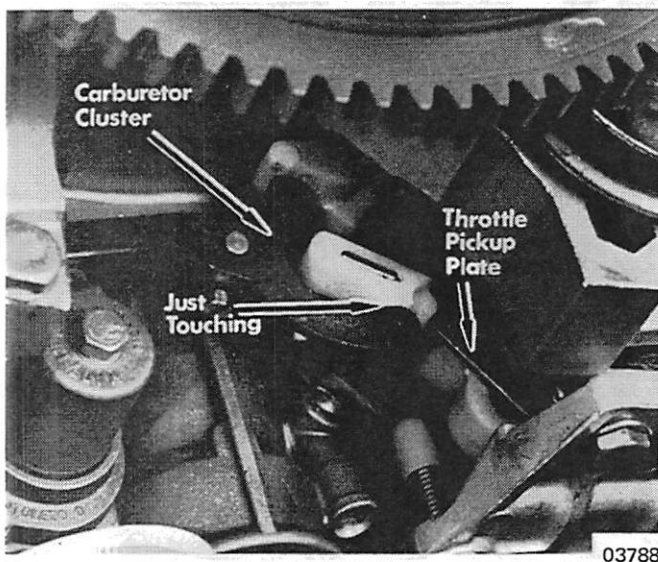

Figure 5. Carburetor Pickup.
- a. Using timing lite, advance throttle until timing mark (3 dots) on flywheel aligns with line on timing decal for proper primary throttle pickup shown under "Ignition Data" on preceding page. At this point, carburetor pickup should just touch carburetor cluster (.000" to .005" [.127mm] clearance). (Figure 5)
- b. Loosen screws, which hold throttle pickup plate, and adjust if necessary. (Figure 5)